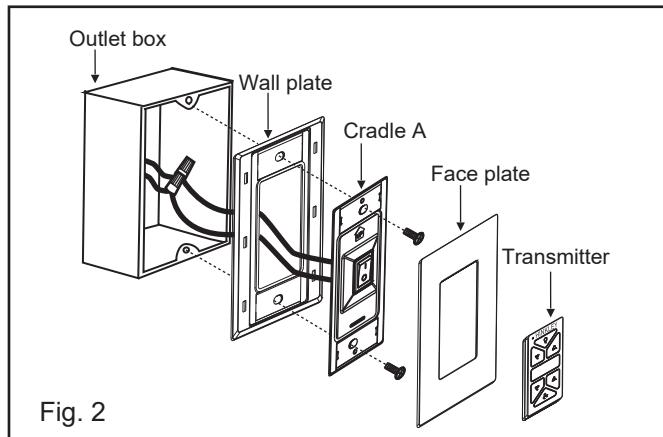

Fig. 2
2. Seat the cradle A into the wall plate. (Fig. 2)